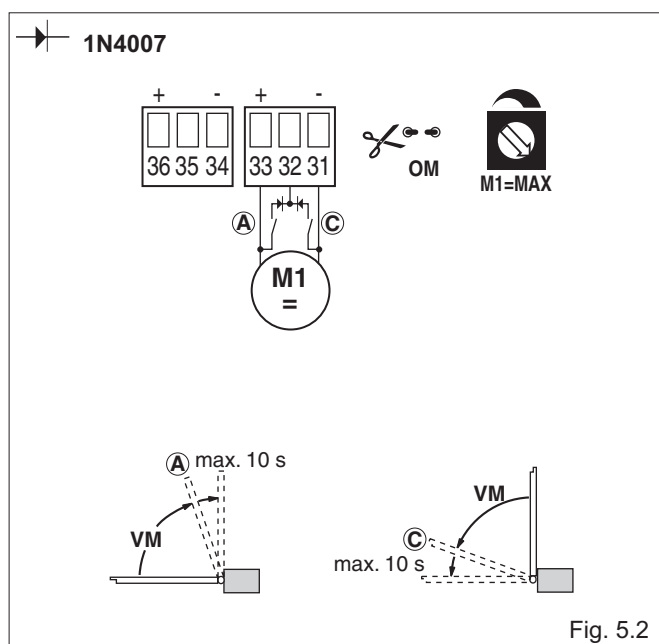

Fig. 5.2
- (Fig. 5.2) Use with slow down limit switch